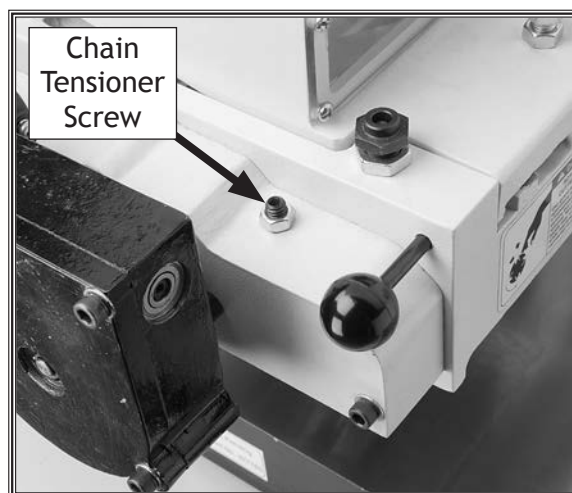

Figure 61. Chain tensioner screw location.
3. Loosen the lock nut on the chain tensioner screw (see **Figure 61**).